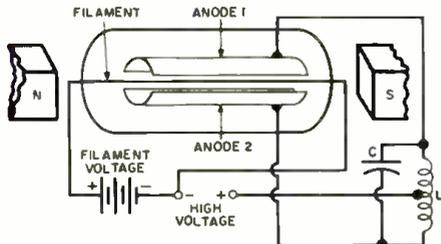

Fig. 5. The early split-anode magnetron.
**Magnetron.** The magnetron (first reported in 1921) is a vacuum diode tube in which negative resistance can be obtained through the action of electrons in a strong field produced parallel to the tube electrodes by an external permanent magnet. Fig. 5 shows one type of magnetron. Here, the anode (plate) of the tube is split into two halves. Electrons tend to pass from the filament or cathode to both halves of the anode; but actually pass in the greater number (producing high current) to the half which is at the lower potential. This effect of increasing anode current by lowering anode voltage corresponds to negative resistance. This type of magnetron is used up to 1000 mc.; other types at higher microwave frequencies.